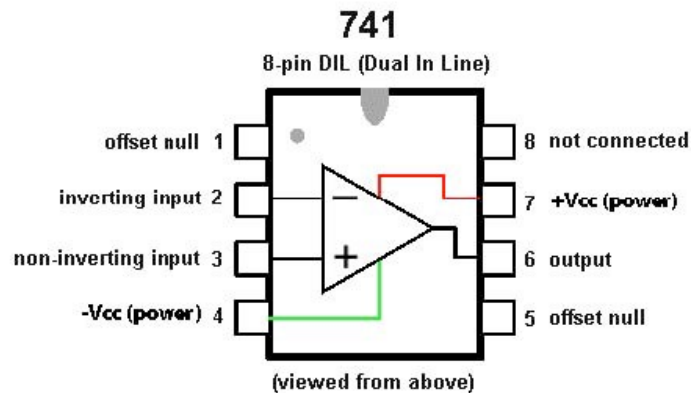

Figure 1. LM 741 Pinout.
- Look through* at a data sheet (provided on the course website) for the 741 Op Amp to familiarize yourself with the meaning of the various pins, limitations, etc. The 'pin-out' for this integrated circuit is also shown in Figure 1. Write "READ" when done.
- c. *Draw* a simple schematic of a non-inverting op amp (you can use lecture notes), which will include two external resistors. On your schematic, please indicate all relevant pins (inputs, output, bias, etc.) and label them according to the pin-out scheme shown in Figure 1.